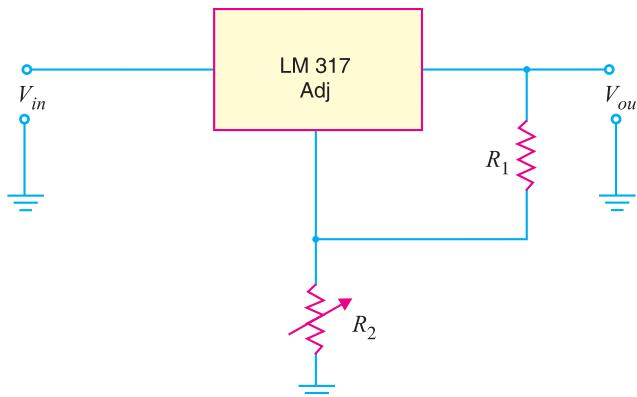

Fig. 23.16
**(ii) IC Adjustable Voltage Regulator.** Sometimes, we want a voltage regulator whose voltage we can vary. An example of such a voltage regulator is LM 317 whose schematic diagram is shown in Fig. 23.16. By varying the value of  $R_2$ , the output voltage of the regulator can be adjusted. The following equation is used to determine the regulated d.c. output voltage for an LM 317 regulator circuit :
**Example 23.1.** In LM 317 voltage regulator shown in Fig. 23.16,  $R_2$  is adjusted to  $2.4 \text{ k}\Omega$ . If the value of  $R_1$  is  $240 \Omega$ , determine the regulated d.c. output voltage for the circuit.